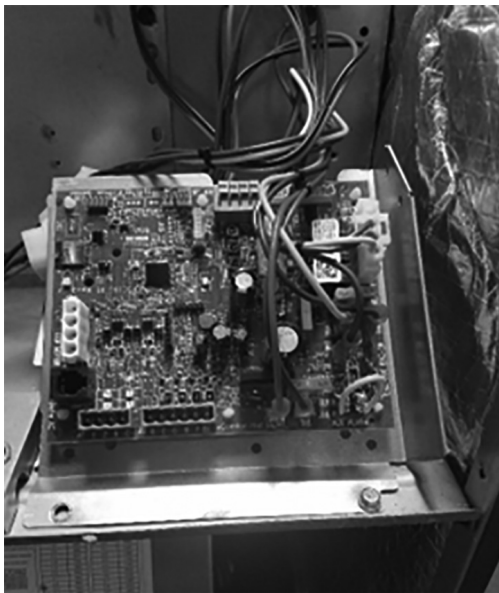

Figure 3.
The FTQ\*\*T product line may be installed in one of the upflow, downflow, horizontal left or horizontal right orientations as shown in Figures 3, 4, 5 and 6. The unit may be installed in upflow or horizontal left orientation as shipped (refer to specific sections for more information). Minor field modifications are necessary to convert to downflow or horizontal right as indicated in below sections.
- Rotate 90 degrees and attach to blower deck. Using two self-tapping screws. (Figure 3.)